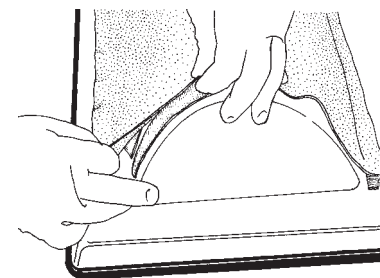

fig 17
3. To make the skin taut pull the side edge and attach to the Velcro **fig 17.**